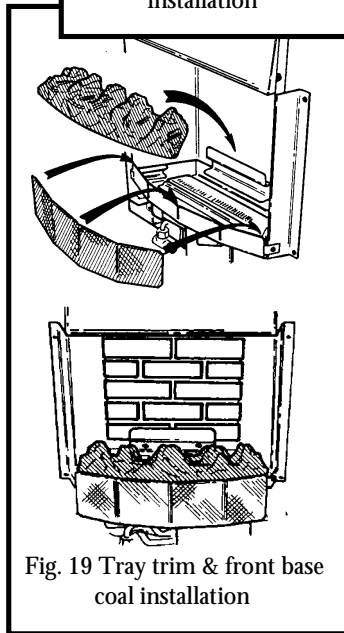

Fig. 19 Tray trim & front base coal installation
11.2 Fit the tray trim over the front edge of the burner tray. Make sure that it is pushed down fully. Place the front base coal in the burner compartment so that it rests on the ledges at the sides and front. Pull the coal forward so that it is immediately behind the front rim of the burner compartment. (See figure 19).